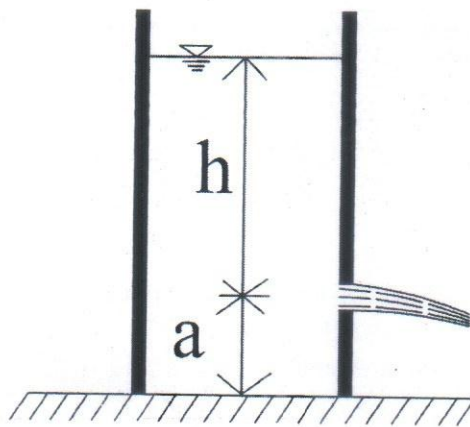

Fig.: 9
- (b) An ideal liquid ($\gamma = 9810\text{ N/m}^3$) flows from a 400 mm diameter tank as shown in Fig. 9. The jet diameter is 80 mm and $a = 250\text{ mm}$. If the static coefficient of friction between the tank and floor is 0.6, determine the minimum value of h at which the tank will start to move to the left. The tank itself weighs 500 N. (10)